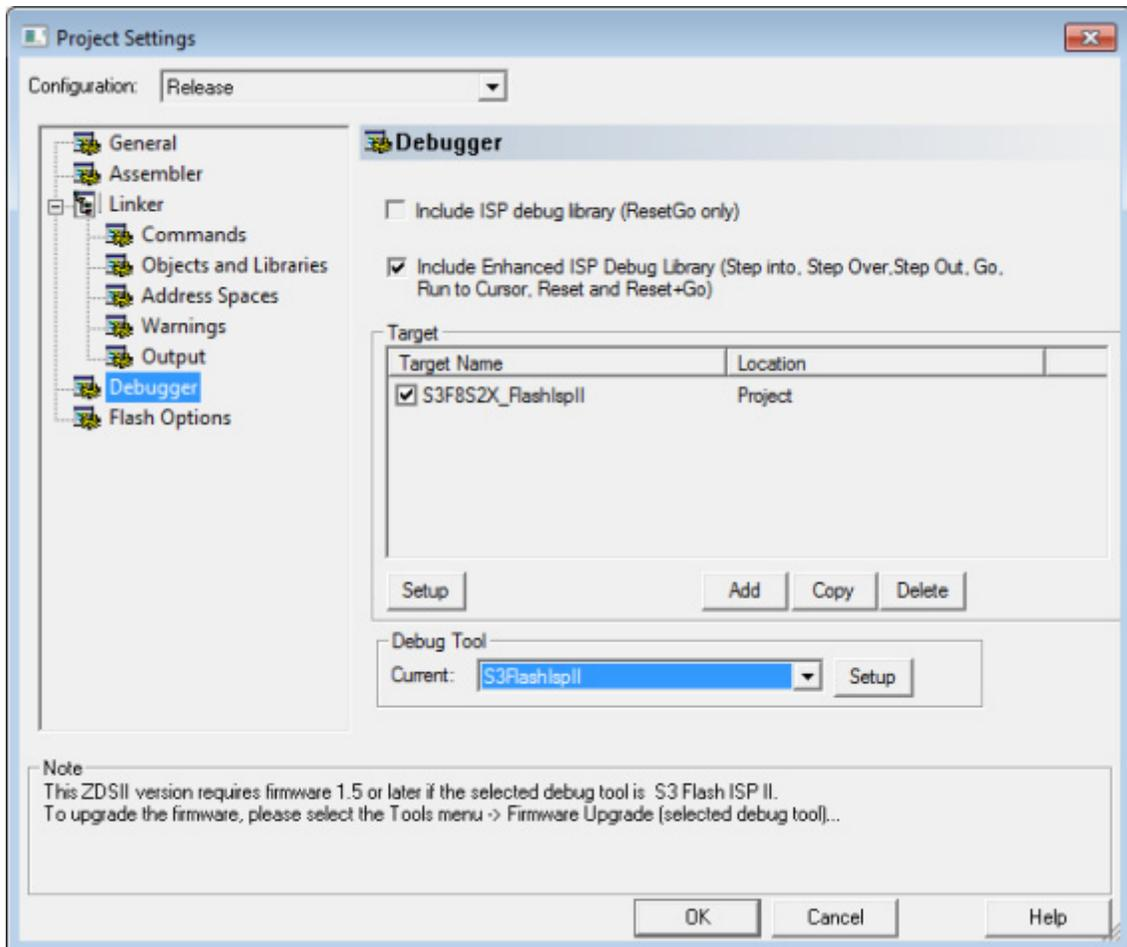

Figure 8. Select the Target and Debug Tool
- On the Debugger page, select **S3F8S2X_FlashIspII** from the Target list, then select **S3FlashIspII** from the **Debug Tool** drop-down menu, as indicated in Figure 8.